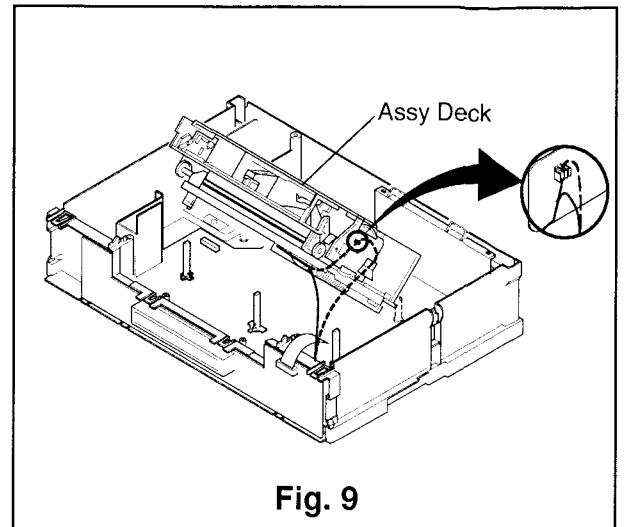

Fig. 9
- ④ Raise the front side of the Assy Deck upward as shown in Fig. 9 and support it with a screw driver, etc. Servicing on the components side of the PCB is now possible.
- ⑤ Remove the PCB-HIFI/NIC/DEC.